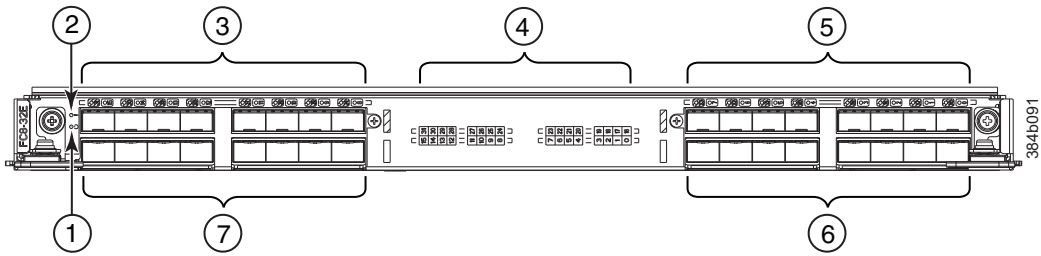

Figure 62. FC8-32E port blade
- Figure 62 on page 171 shows an FC8-32E port blade